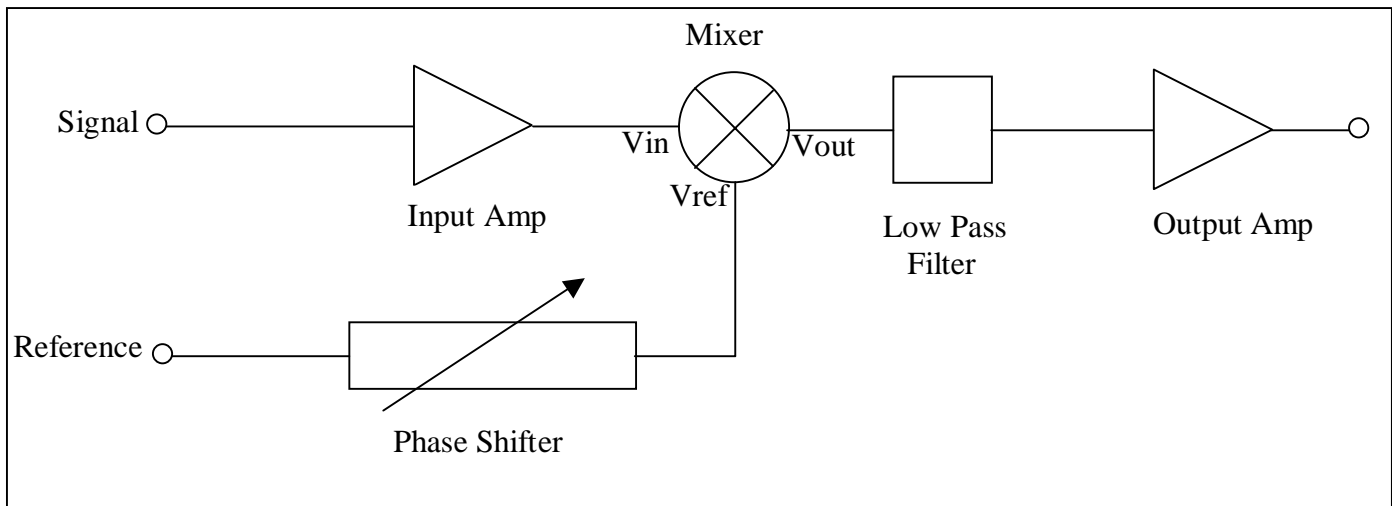

Figure 2. Lock-in Amplifier.
- b. Lock-in amplifiers. A lock-in essentially provides a very narrow band pass filter function at the input signal frequency (See Figure 2).